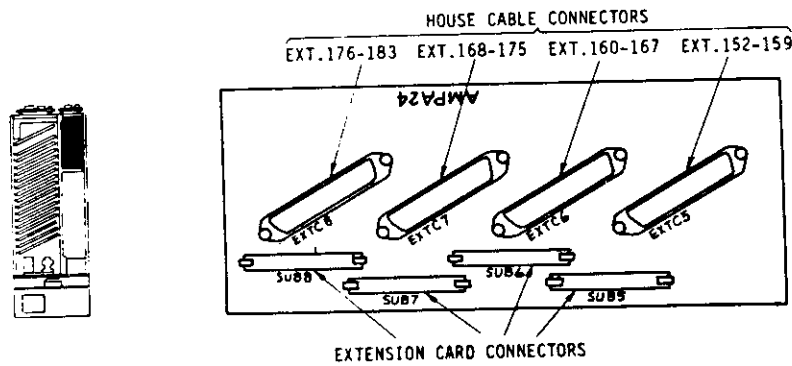

FIGURE 4-12
- Use six screws and mount the AMPA24 board at the upper right front of the ZT-2464KSU as shown Figure 4-12.